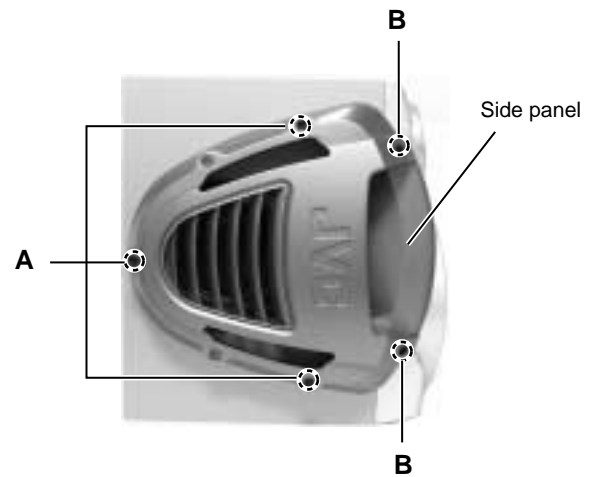

Fig.1
■ Removing the side panel (See Fig. 1)